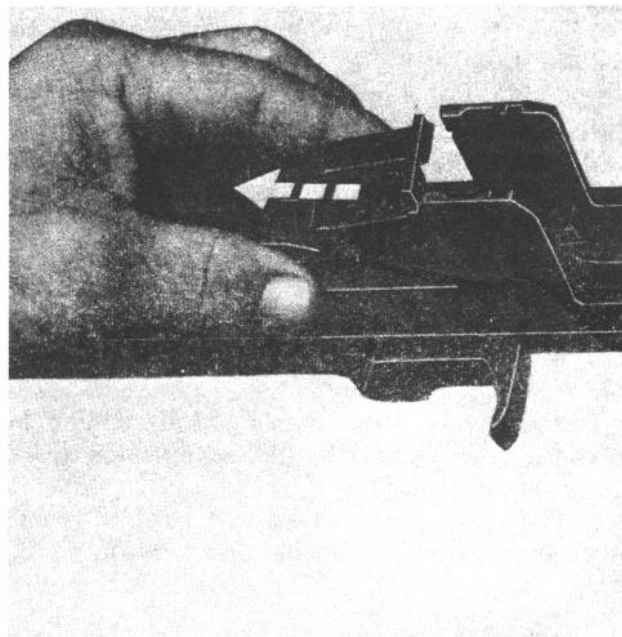

Figure 6. Removing the bullet guide, follower arm, and operating rod catch assembly.
c. With the left hand, grasp the bullet guide, follower arm, and the operating rod catch assembly, and lift them out of the receiver together (fig. 6). Separate and arrange these parts from left to right in the following order: follower arm, operating rod catch assembly, and bullet guide.